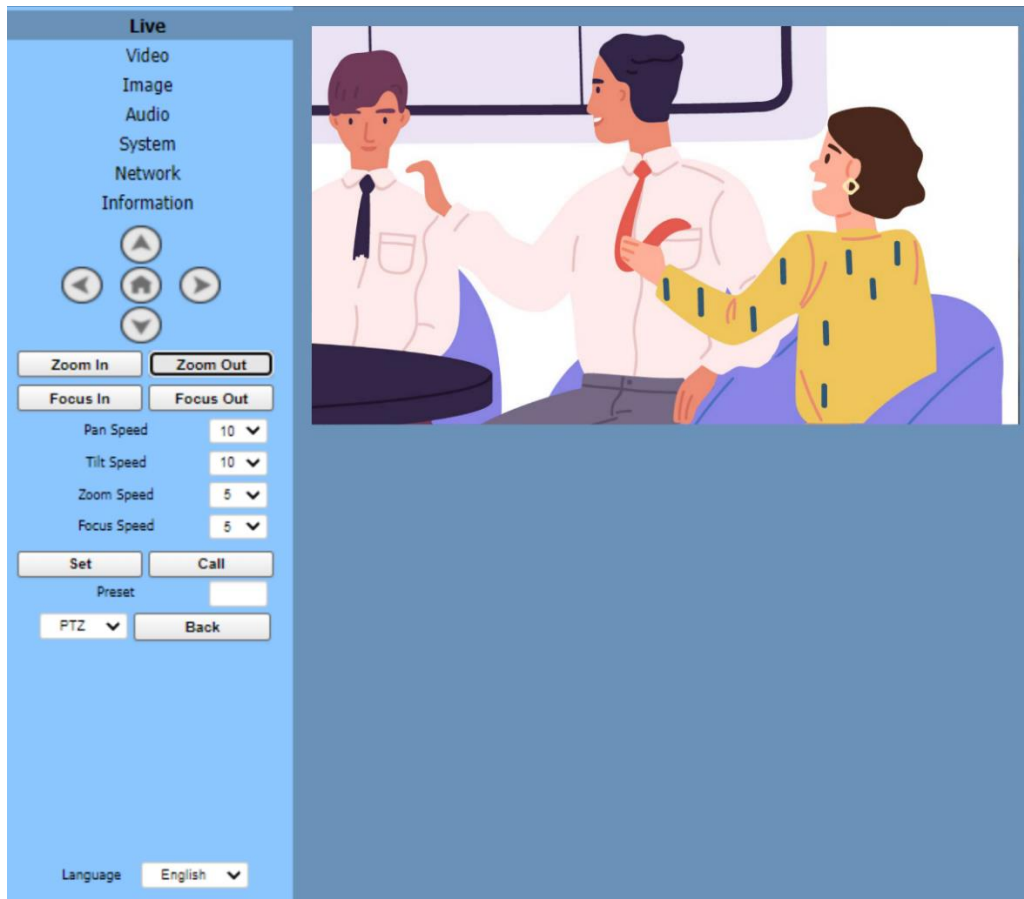

Figure 7: Live Page
1. Access the embedded webpages (see Browsing the K-Cam4K Webpages on page 21). The Live page appears (see Figure 7).